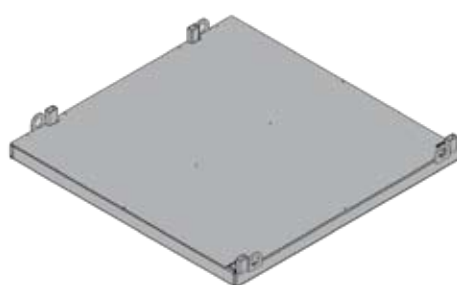

Fig. 28.1
1. Place the Uni-platform LAB 130/140 on flat ground (Fig. 28.1).